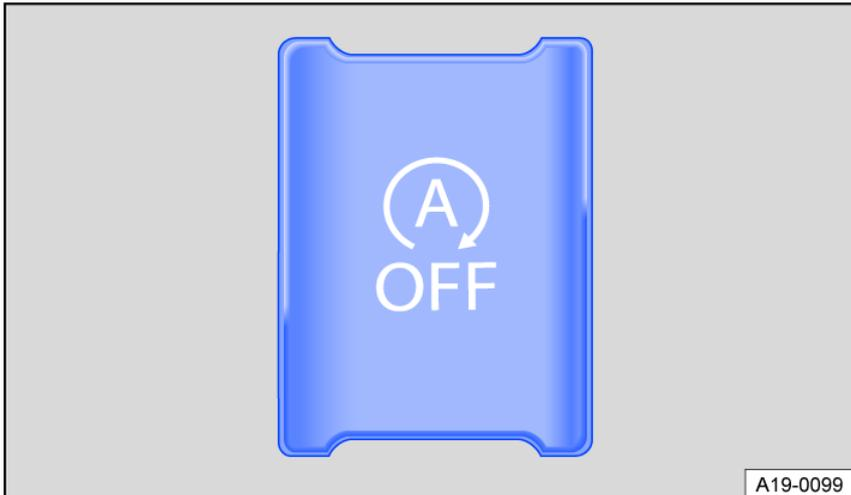

Fig. 116 In the lower section of the center console: Button for the start-stop system.
1. Press the  button on the center console to manually deactivate the system. When the start-stop system is deactivated, the indicator light on the button comes on *fig. 116*.
1. Press the  button on the center console again to manually reactivate the system *fig. 116*.